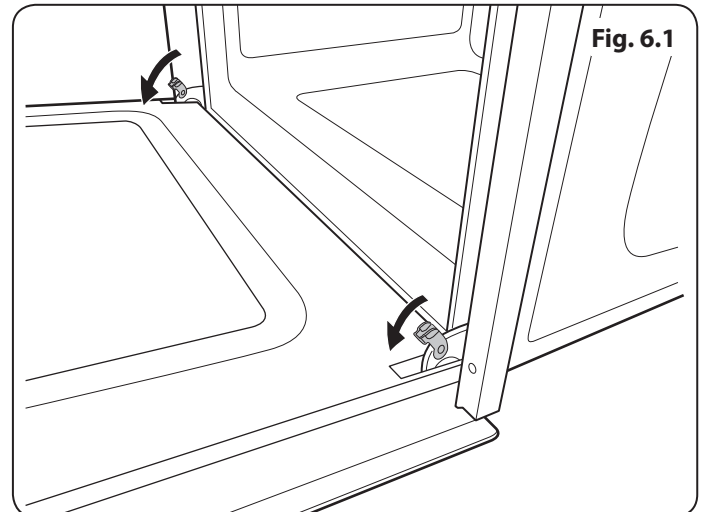

Fig. 6.1
1. Open the door to the full extent. Unlock the locking clips on both the left and right hinges (**Fig. 6.1**).